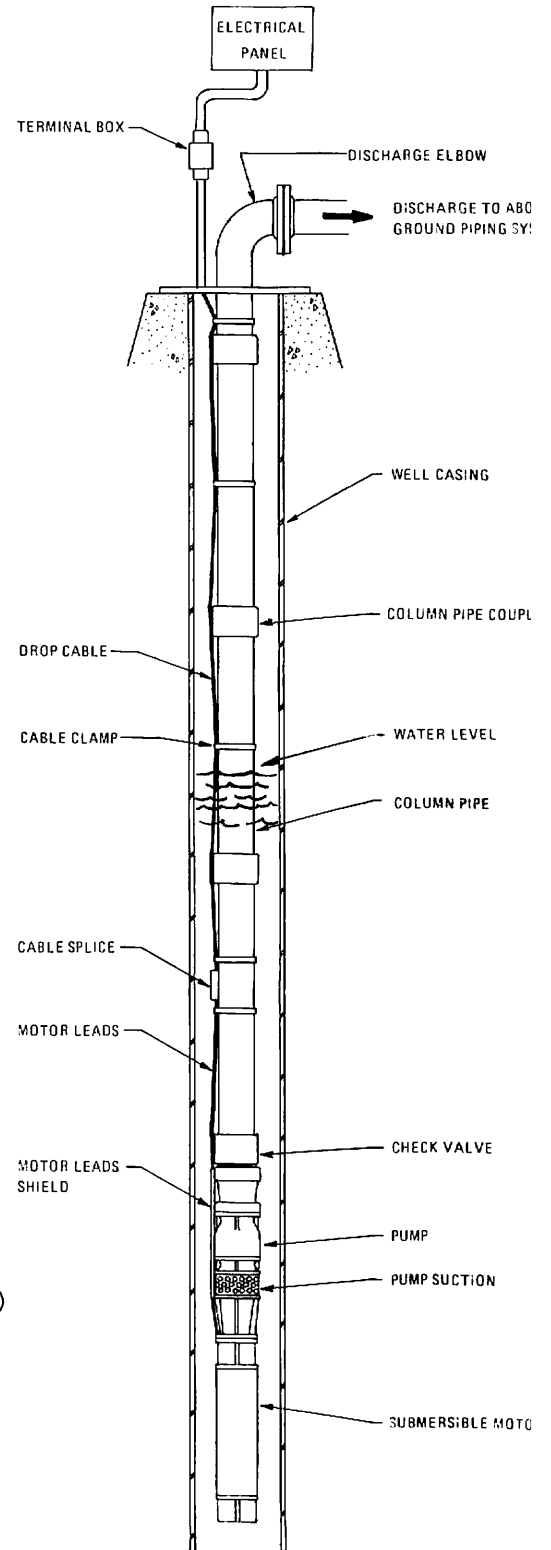

Fig. 1. Typical Submersible Pump Installation
- The well must be deep enough so that the pump suction (see Fig. 1) is at least 10 feet below the expected drawdown level. The lower end of the pump should be at least 10 feet from the bottom of the well.
- The inside diameter of the well casing must be large enough to allow lowering the unit into the well without damaging the drop cable, the splice between the drop cable and the motor leads, or the motor leads. A slightly enlarged area may be required immediately underneath the discharge head to prevent pinching the cable against the well casing. The drop cable must be pulled away from the column pipe in this area to allow it to pass through the threaded opening in the surface plate of the discharge head. See Fig. 1.
A waterproof splice must be made to connect the drop cable to the motor leads. A properly made splice will last the life of the pump. An improperly made splice will become a service problem. Make the splice per instructions supplied with the drop cable or per instructions in the pump motor manual. The splice should be located above the pump bowl. See Figure 1. It should be as compact as possible. A compact splice is less likely to be damaged as the pump is being lowered into the well.
- a. If a check valve is to be used and it is not already installed, install the check valve on the pump. See Fig. 1. Clean the threads and apply thread sealant. Check that the arrow on the check valve is pointed in the direction of flow. Check that the valve disc or poppet is not stuck in the open or closed position. Tighten the valve securely. See Note above.